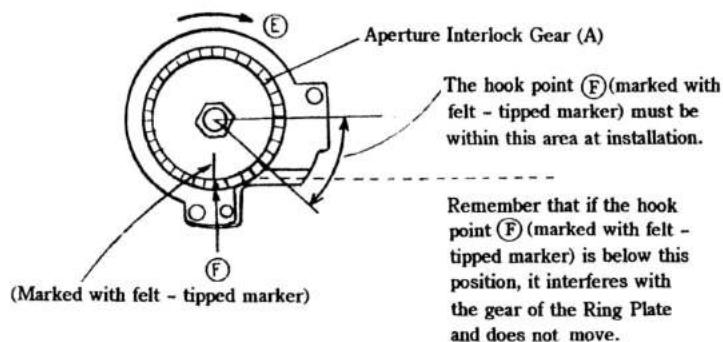

Fig. 36
- 4) Turn the hook point **(F)** (marked with a felt - tipped marker) of the spiral spring on the Aperture Interlock Gear (A) of the Aperture Code Ass'y (1AMG0600) by about 300 degrees in the direction of the arrow **(E)**. With the hook point in this position, install the Aperture Code Ass'y in the Mirror Box and tighten the Aperture Code Ass'y Setscrews (61913026) \times 2. (See Fig. 36)